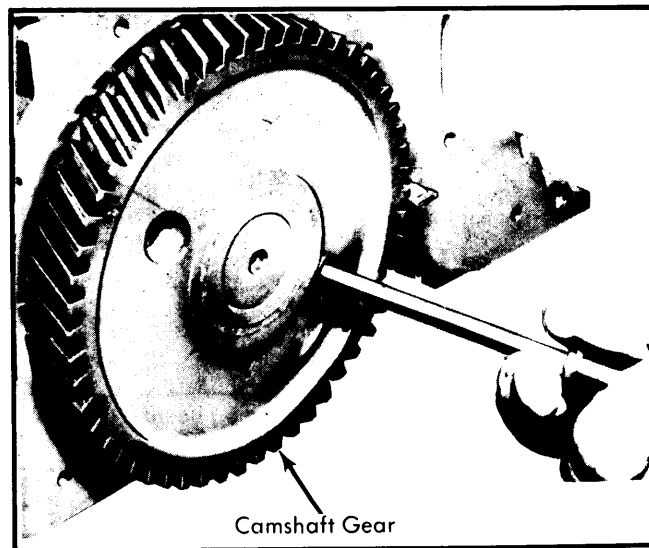

Fig. 9 Removing Thrust Plate Attaching Bolts
2) Remove 2 camshaft thrust plate bolts through holes in camshaft gear (see Fig. 9). Remove camshaft assembly by pulling out through front of block. Support camshaft carefully when removing to prevent damage to camshaft bearings.